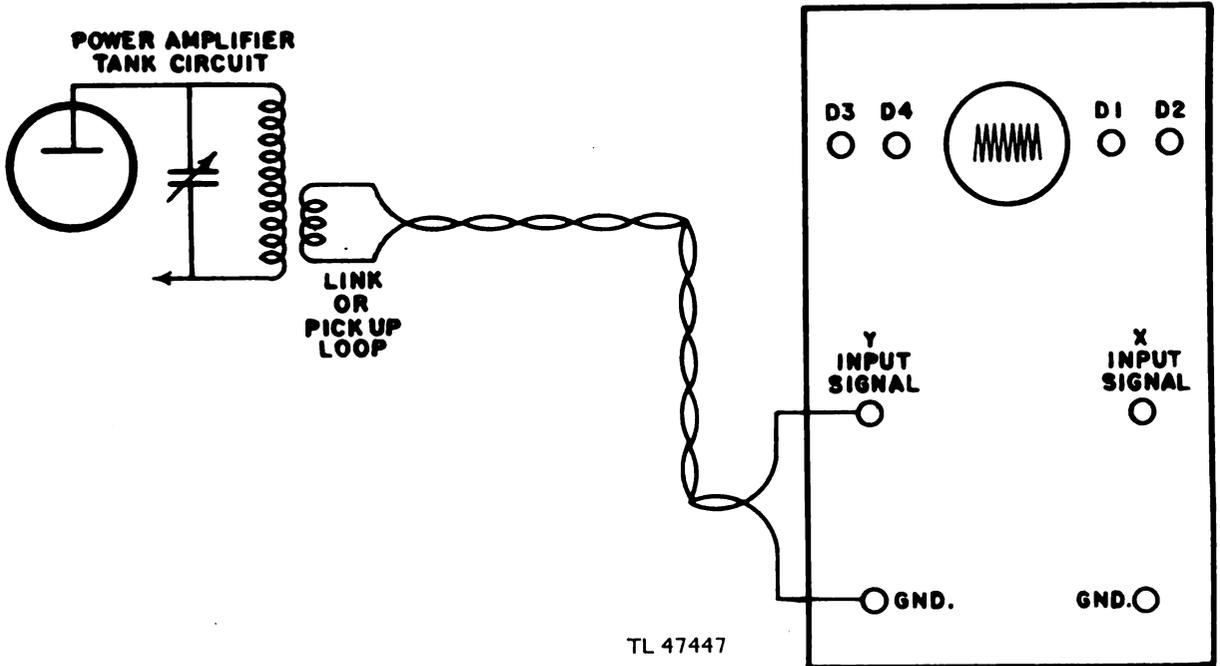

Figure 7. Neutralization of amplifiers which operate at a frequency below 3 megacycles.
(1) With circuits utilizing link coupling between successive amplifier stages, the link winding coupled to the plate circuit of the amplifier to be neutralized can be connected directly to the terminals of the oscilloscope through a twisted pair of wires. If the frequency of operation of the r-f amplifier is below 3 megacycles, connect the link to the Y-axis amplifier terminals. If the frequency of operation is above 3 megacycles, connect the link coupling to the Y-axis direct deflection terminals  $D_3$  and  $D_4$ . Turn deflection plate connection switch to the appropriate position. Set the frequency range control at any position except the X-signal input position. This is done to prevent a stationary spot from appearing on the screen of the cathode-ray tube and thus shortening its life. In general it will be impossible to synchronize the trace, and in this operation synchronization is not necessary. The amount of Y-axis deflection is the only criterion of whether or not the r-f amplifier is neutralized.
(2) Apply filament power, grid bias, and grid excitation to the stage to be neutralized, but *apply no plate voltage*. Connect the oscilloscope according to previous instructions. Assuming that the r-f amplifier is not neutralized, tune in the plate tank tuning capacitor for maximum Y-axis deflection on the oscilloscope. When this point is reached, tune the neutralizing capacitor for minimum Y-axis deflection. In using the Y-axis amplifier, adjust the attenuator and Y-gain controls for maximum necessary sensitivity. Varying the plate tank tuning capacitor over its range now should produce no change in the Y-axis deflection if the r-f amplifier is properly neutralized.
(3) With amplifiers which do not have link couplings, it will be necessary to use an auxiliary link coil made of a few turns of wire and coupled to the tank coil of the r-f amplifier. Care must be taken when using an auxiliary link coil that it does not alter the circuit conditions. Figures 7 and 8 show the connection for neutralization.